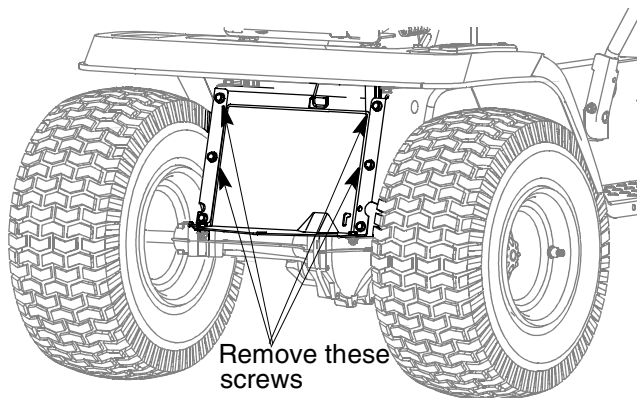

Figure 2
- Remove the top four self-tapping screws from the rear of the lawn tractor. See Figure 2
- Secure the Catcher Support Bracket to the tractor frame with two self-tapping screws removed earlier. Refer to Figure 2. Repeat on the left hand side using the LH Catcher Support Bracket (Ref. No. 4).